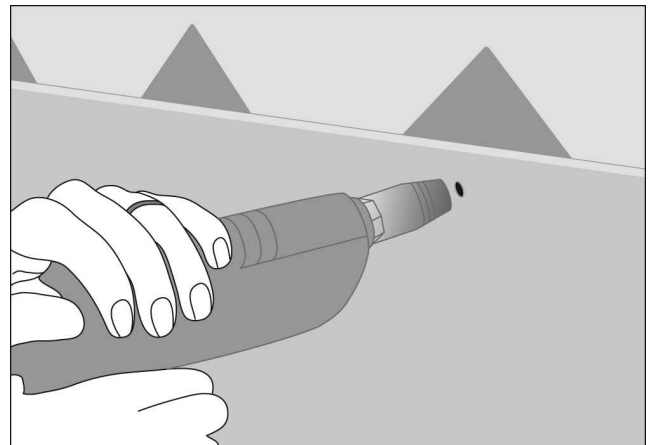

Fig. 21-22 Attaching sheathing directly to plastic ties in the concrete forms. (AFM.)
8. Sheathing can be screwed into the metal or plastic ties located every foot in the foam block, as shown in Fig. 21-22.